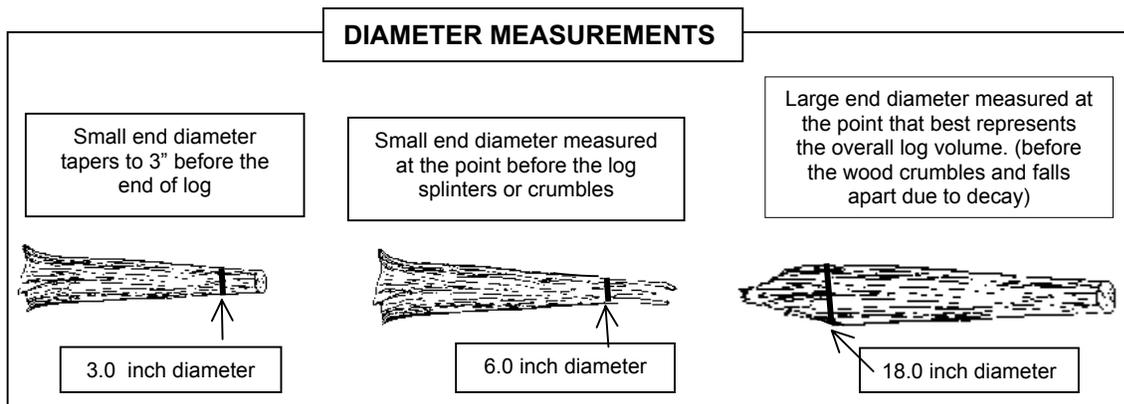

Figure 14-9. Diameter measurements
The diameter is most commonly measured by holding a tape above the log, at a position perpendicular to the length (Figure 14-9). It is useful to carry a steel carpenters retracting tape to measure diameters. Other methods include wrapping a tape around the bole if possible, holding a straight-edge ruler above the piece, or using calipers.
Record a 3-digit code indicating the diameter at the piece's small end. The diameter is recorded to the nearest inch. The small end diameter occurs either at (1) the actual end of the piece, if the end has a diameter ≥ 3.0 inches, or (2) at the point where the piece tapers down to 3.0 inches in diameter. If the end is splintered or decomposing (sloughing off), measure the diameter at the point where it best represents the overall log volume. Use the same measuring procedures described in 14.8.5 (see Figure 14-9). Not recorded for Decay Class 5.